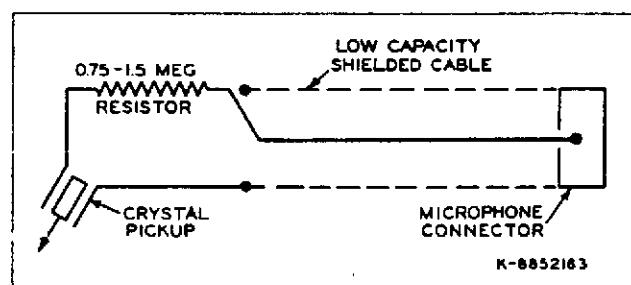

Figure 18—Voltage Divider for Use with Pickup
57. The output of the average crystal pickup exceeds the maximum permissible input voltage to the amplifier by a factor of about 10. Hence it must be reduced. One method of reducing it by a fixed amount is shown in figure 18. The arrangement consists simply of a high resistance in series with the input resistance of the amplifier. This resistance is about 85,000 ohms when the MIC-FILM switch is in the MIC position. Hence an external resistance of from 0.75 to 1.5 megohms assures the required attenuation. When the fixed voltage reduction has been introduced, the output of the amplifier should be controlled with the projector volume control.
58. For good bass response, the crystal pickup should work into a resistance of about 1 megohm. The circuit in figure 18 satisfies this condition. For good high-frequency response, the total cable capacity should not exceed about 500 mmfd and the series resistance should be connected at the pickup end of the cable, as shown. In order to assure low total capacity, low capacity cable should be used and it should not be any longer than is absolutely necessary.
59. When the pickup is provided with a potentiometer volume control, this can be used in place of the fixed attenuator shown in figure 18. When this is done, the output of the amplifier can be controlled with either the pickup potentiometer or with the projector volume control. The one not used should be set in a position which permits satisfactory control with the other.